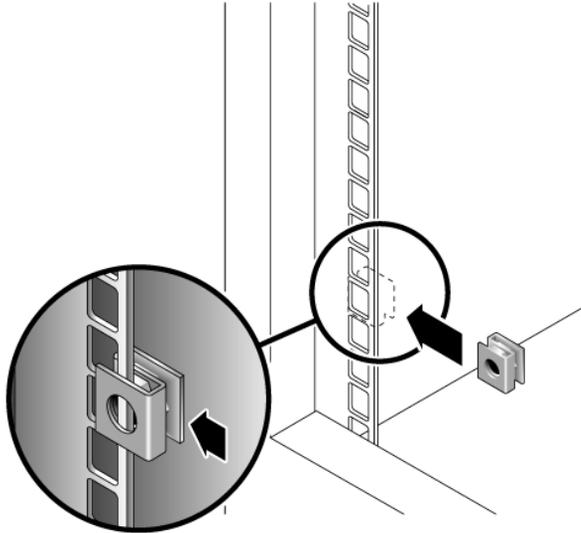

FIGURE 2-14 Inserting A Cage Nut on the Cabinet Rail at the Rear of the Cabinet
4. On the corresponding cabinet rail at the back of the cabinet, snap one cage nut over the lowest hole in the middle mounting unit of the 3RU cabinet slot in which you will mount the tray (FIGURE 2-14).